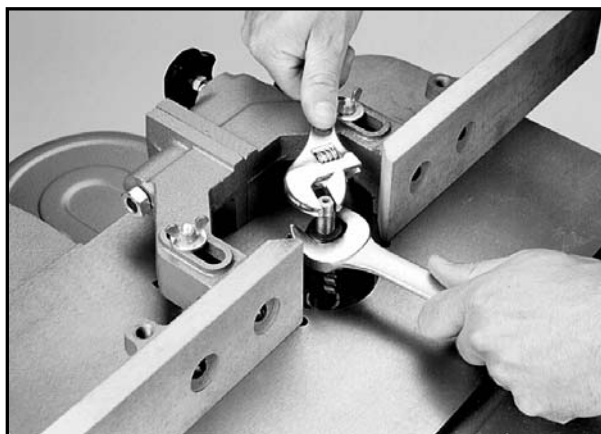

Figure 14
4. Return the spindle nut to its position on the spindle shaft and tighten it. Use an appropriate wrench on the squared head of the spindle shaft to hold the shaft in place while you tighten the spindle nut. See Figure 14. If your shaper features a lock nut, tighten it over the spindle nut.